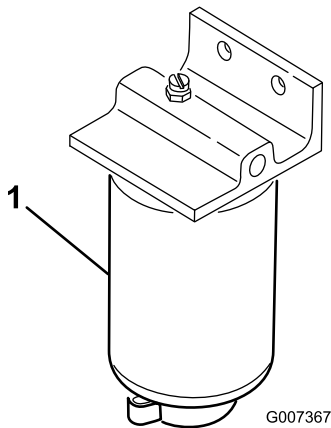

Figure 55
1. Place a clean container under the fuel filter (Figure 55).